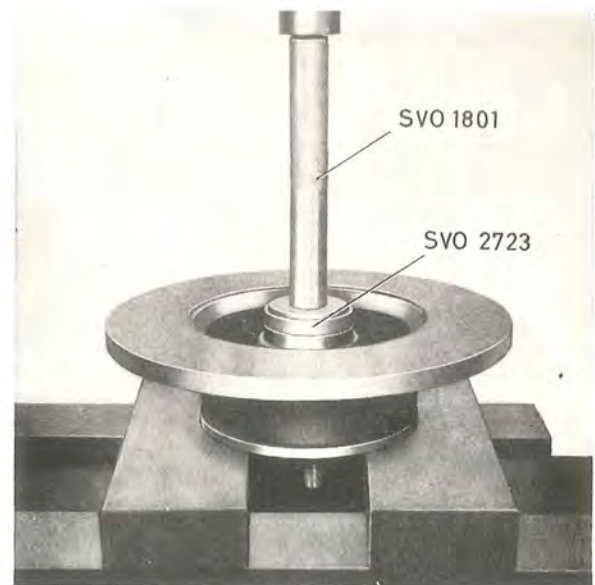

Fig. 7-20. Fitting the sealing ring
- Use a high-class bearing grease for the bearings. Place the inner bearing in position in the hub. Press in the sealing ring with drift SVO 2723 and standard handle SVO 1801, see Fig. 7-20.